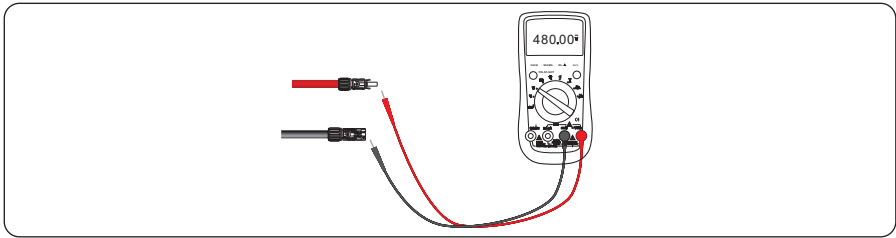

Figure 5.16 Checking the voltage of every route Strings
**Step 5** Measure the voltage of every route Strings using a multimeter. Ensure that the polarities of the DC input power cables are correct, as shown in Figure 5.16.